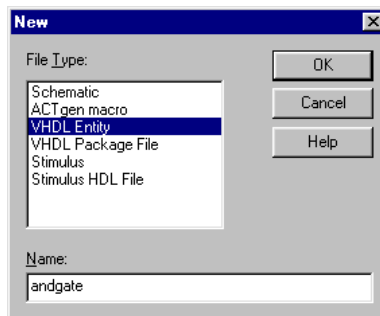

Figure 2-6. New File Dialog Box
1. From the File menu, click **New**. This opens the New dialog box, as shown in Figure 2-6.